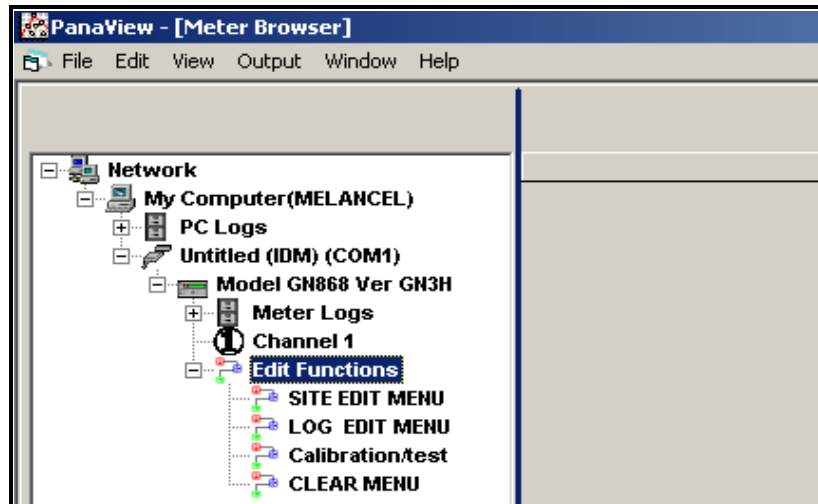

Figure F-19: Meter Tree with *Edit Functions* Option
- From the meter tree, expand the *Edit Functions* option. The window now appears similar to Figure F-19 below, with a list of available menus. The menus listed are those available on the meter. (For illustration purposes, the specific menus shown are those for a one-channel GN868 flowmeter.)